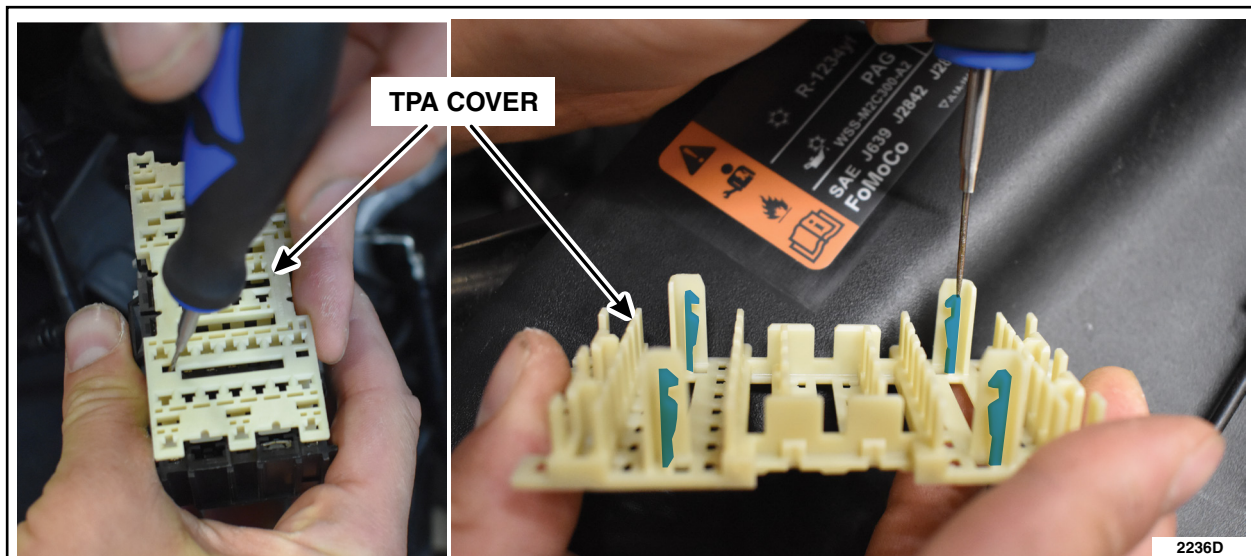

FIGURE 18
20. Using a small flat-head screwdriver, remove the Terminal Position Assurance (TPA) cover. See Figure 18.